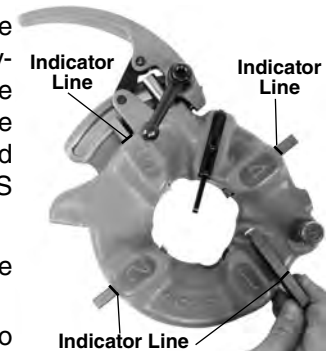

Figure 10 – Inserting Dies
5. Remove dies from the die head. Insert appropriate dies into the die head, numbered edge up until the indicator line is flush with the edge of the die head (*see Figure 10*). Numbers on the dies must correspond with those on the die head slots. Always change dies as sets – do not mix dies from different sets.